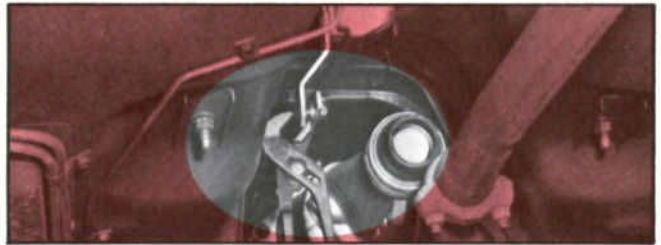

Figure 2
- 1. Manual Linkage** ■ Removal of this linkage should be done at the shift tower lever and linkage rod connection. Pry the shift tower lever off of the bushing on the rod. Do not loosen the nut on the linkage rod. See Figure 2.
10. Snap linkage rod to shift tower lever with pliers as shown in Figure 2.